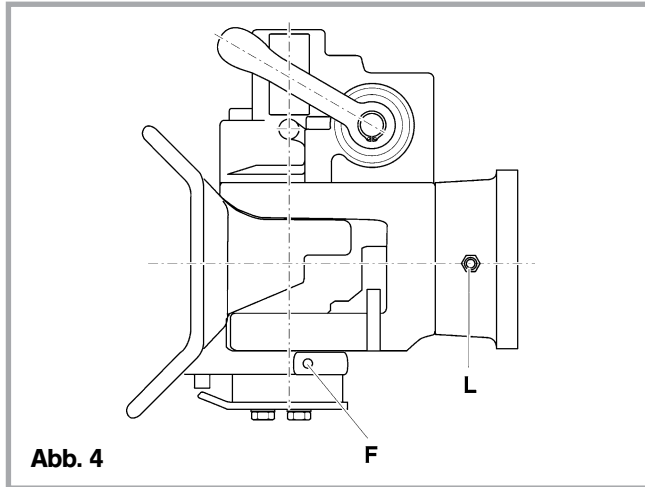

Abb. 4
Note: Under harsh operating conditions or severe exposure to dirt or water regrease automatic unit (A) when coupling is open (see fig. 4):
- Lubricate lower funnel bearing (F) and pressure bar on underside of coupling (K) with 3EP.